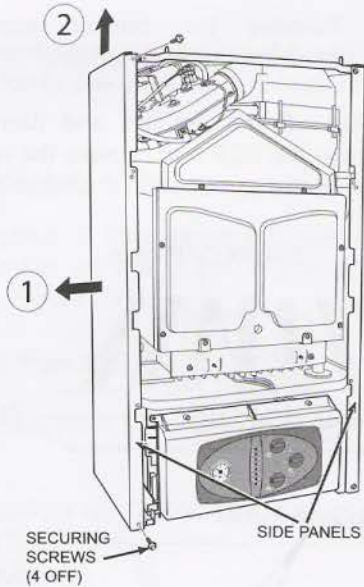

Figure 27
- Release the side panels by removing the screws on the upper and lower sides (*Figure 27*). Remove the panels by swinging them out and lifting them up.